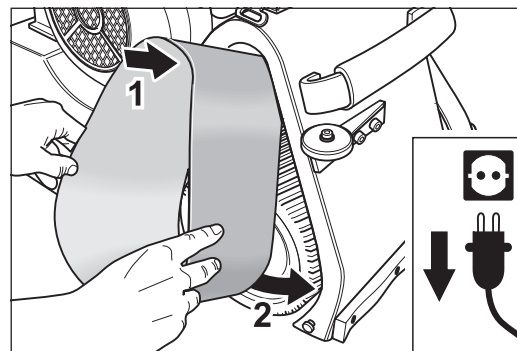
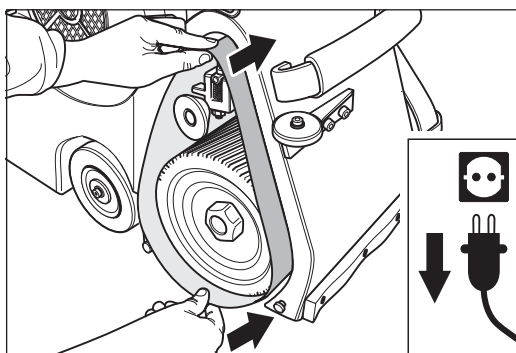

Fig. 37 Position the new sanding belt on the tensioning roller of the drive unit.
Fig. 38 Push the sanding belt far enough over the sanding drum and tensioning roller so that the sanding drum is fully covered by the sanding belt.
- 6 Position the new sanding belt on the tensioning roller of the drive unit (fig. 37) and push it over the tensioning roller and the sanding drum (fig. 38).